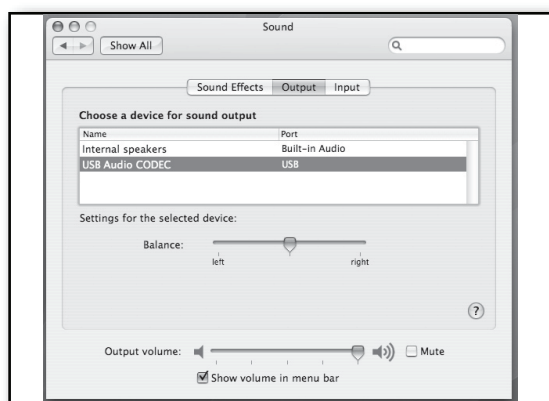

Figure 11
5. Next, click in the Output tab and select USB Audio Codec (figure 11). You may notice that the Volume slider sets itself to the full level. This will allow you to have full range using L Series' hardware MAIN Volume control.